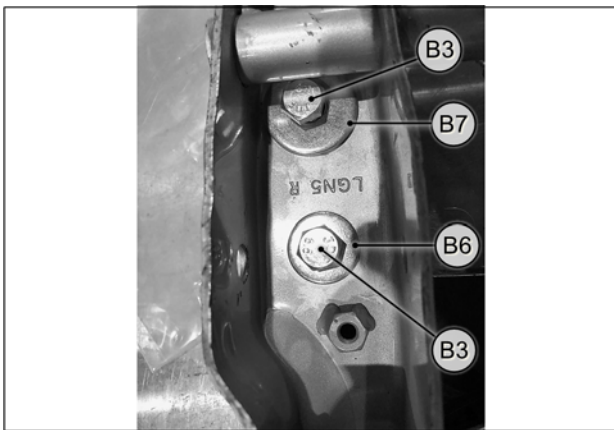

Fig. 6
- Insert the two M8x25mm bolts (B3), with their respective washers (B6 & B7), in existing suspension arm holes. See Fig. 6